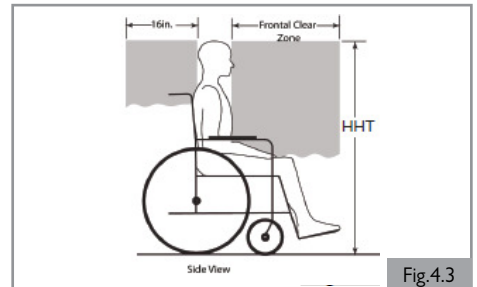

Fig.4.3
4. The estimated seated height (HHT) from the ground or floor to the top of the wheelchair-seated occupant's head ranges from approximately 47-in (119 cm) for a small adult female to about 61-in (155 cm) for a tall adult male (Fig. 4.3).